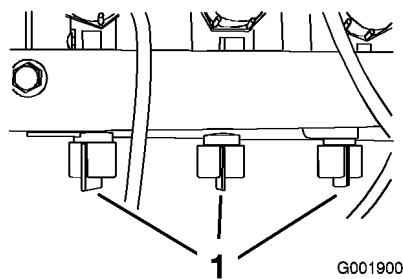

Figure 40
12. Adjust the boom bypass valve (Figure 40) under the boom control valve for the boom you turned off until the pressure reading on the gauge is the same as it was in step 9.